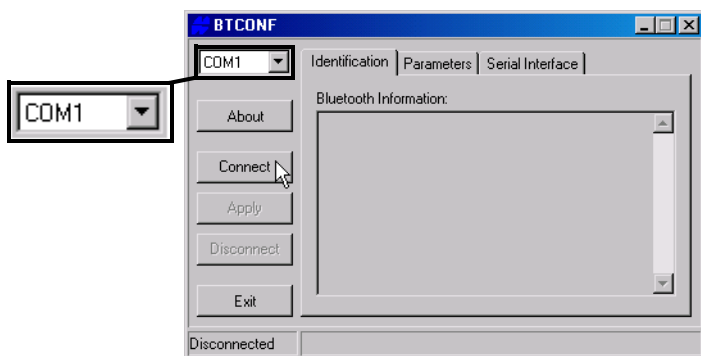

Figure 2-11. Select Communication Port and Click Connect
3. From the drop-down list in the upper left corner, select the computer serial port (usually COM1) used for communication (Figure 2-11).
4. Click **Connect** to connect the computer and Bluetooth module (Figure 2-11).